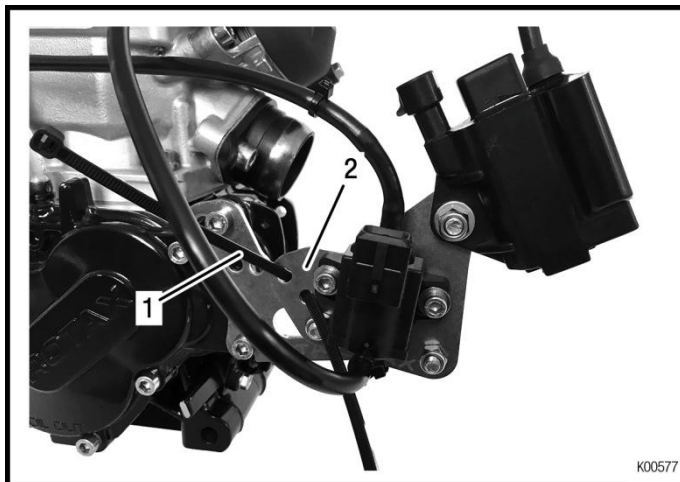

Fig. 24
- ➔ Pre-mount the large cable tie (pos.1) through the two holes provided on the mounting plate (pos. 2). See *Fig. 24*.